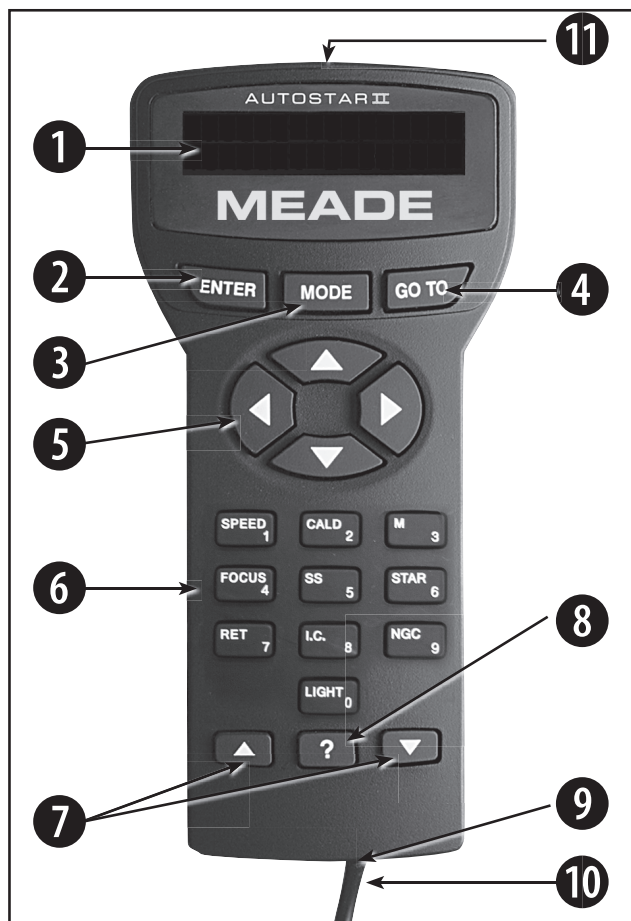

Figure 2: The AutoStar II handbox
Note: If MODE is pressed and held for two seconds or more, information about the telescope’s status displays. When the status displays, press the Scroll keys (**Fig. 2, 7**) to display the following information:
Additionally, use the Arrow keys to move the cursor across the display: Use the Right or Left Arrow key (**Fig. 2, 5**) to move the cursor from one number to the next in the display.
⑨ **Coil Cord Port:** Plug one end of the AutoStar II coil cord (Pg. 14, Fig. 2, 10) into this port located at the bottom of the AutoStar II handbox.